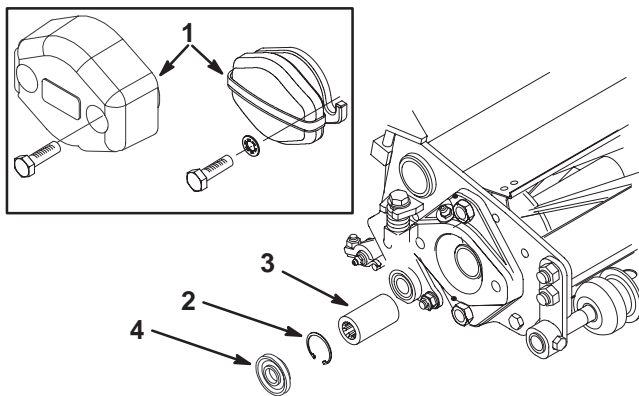

Figure 1
1. Remove the fasteners securing the counterweight to the end of the cutting unit. Remove the counterweight and plastic spacer (if so equipped). Retain the fasteners and spacer (Fig. 1, inset).
2. Apply grease to the internal diameter of the drive coupler. Install the drive coupler to the end of the cutting unit with the snap ring (Fig. 1).